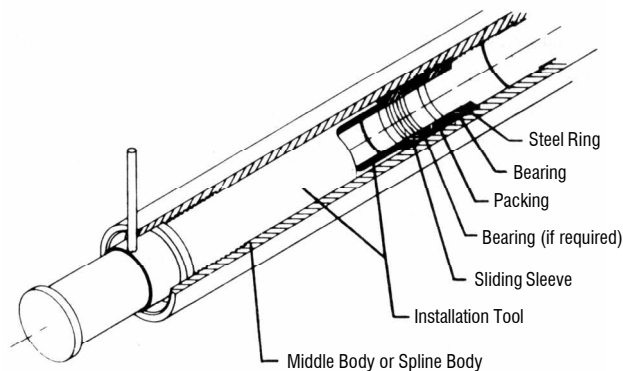

Figure 3
Install (1) Packing Retainer, Item No. 2-B, into Spline Body, Item No. 1. Using the same procedure, install (1) Bearing, Item No. 3, (This Bearing only, not required on 9" – 9-1/2" and 4-3/4" – 5-1/4" O.D. Tool), followed by (1) Packing Set, Item No. 4. Refer to Packing, Ring and Seal Reassembly Guide (page 8) for Packing Set sealing direction. Install (1) Bearing, Item No. 3, against packing. Use the Spline Body Packing Installation Tool (Item No. 59-B) to install the previously mentioned parts in the 4-3/4" – 5-1/4" O.D. Tool (See Figure 3 below).
Assemble these parts as follows, within the Assembly Tool, Item No. 56 (See Figure 3). Pull the sliding sleeve of the Assembly Tool all the way out and grease the bore at the other end with cup grease. Install (1) Bearing, Item No. 17 into the bore. Next, install Packing Set, Item No. 18 against the bearing making sure that the packing inside the assembly tool is pointing in the same direction as on the Packing, Ring and Seal Reassembly Guide (page 8). Install (1) Bearing, Item No. 17. (This Bearing ONLY, not required on 9" – 9-1/2" and 4-3/4" – 5-1/4" O.D. Tool). The last part to install in the Assembly Tool is the Packing Retainer, Item No. 16. Grease lower
end of the Middle Body, Item No. 15, with cup grease. Insert Assembly Tool into the bore of the Middle Body until it makes contact with the shoulder. Push the sliding sleeve of the Assembly Tool in (a hammer may be used if necessary) until the Packing Retainer, Item No. 16, touches the shoulder next to fill plug hole. At this point, all parts are in place inside the Middle Body and the Assembly Tool (Shown in Figure 3) can be removed and set aside.